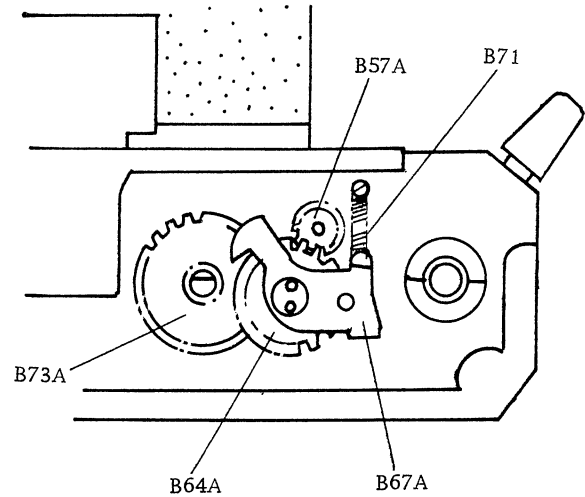

Fig. 16
- 2.1 When the light shielding curtain is set to close, the system does not click. Check the system for faulty stop lever (B67A) operation, unhooked and/or weakened spring (B71). When the parts are defective, repair or replace. (Fig. 16)